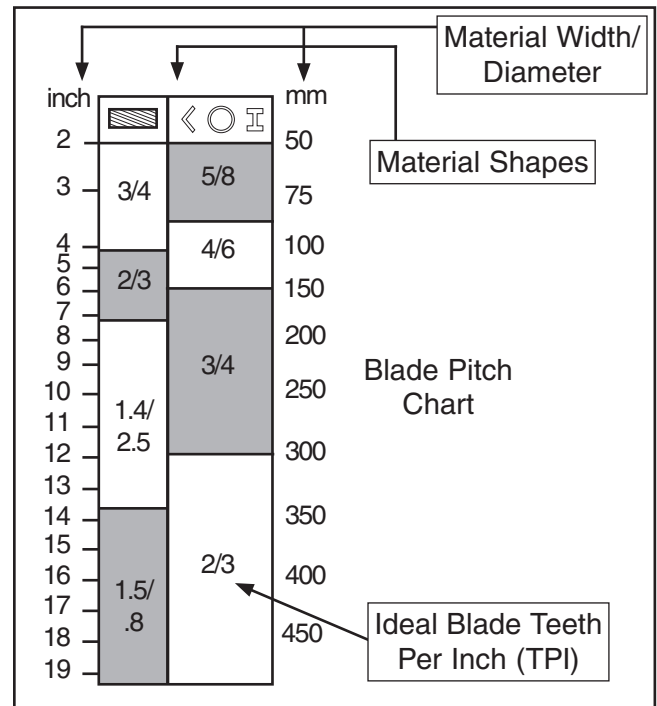

Figure 34. General guidelines for blade selection and speed chart.
2. Refer to the "Material Width/Diameter" row of the blade selection chart in **Figure 34**, and read across to find the workpiece thickness you need to cut.